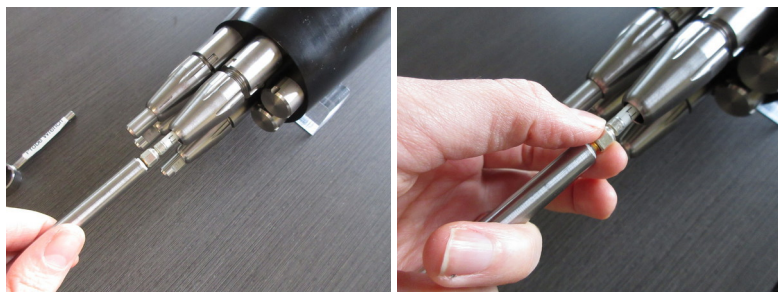

Figure 10: Removing the test probe. Note the clear heat shrink tubing around the SMC connector.
2. Remove the test probe by pulling on it until the label on its SMC cable is visible (Figure 10). **A gentle pull is all that is required.** Pulling with higher force or a distance beyond the label could cause damage to the cable.